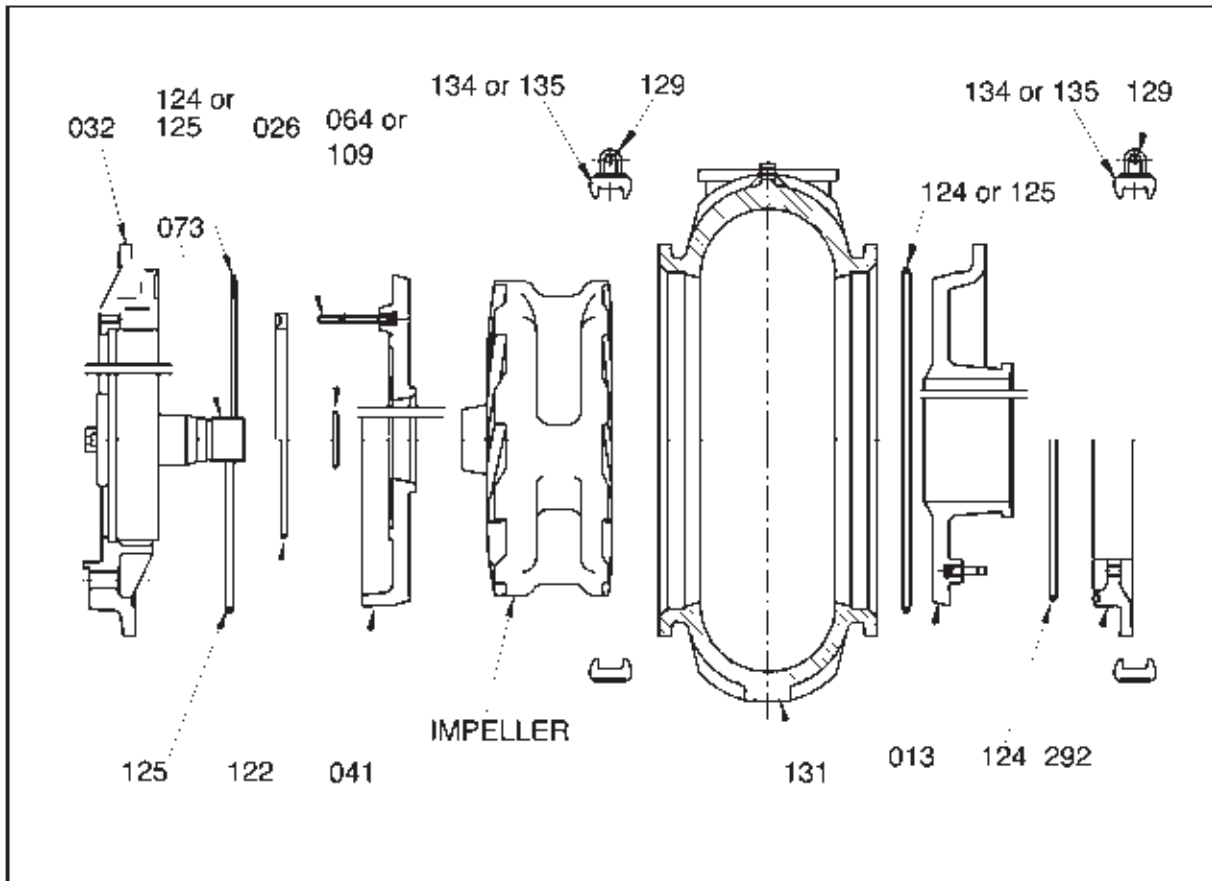

Fig. 9 Three-part casing assembly
- (i) Fit 'C'-section, or O-Ring type, **seal ring** (122) to periphery of **stuffing box**(078) or **expeller ring** (029), preferably using contact cement adhesive. Apply adhesive to compression face of seal ring in about 4 to 6 points only to avoid undue restraint of seal during compression.
- (ii) Where applicable, fit 'C'-section, pressure activated, **bowl ring** (124 or 125). Fit to groove in the adaptor plate, mounted flat face in, using contact cement adhesive if required. This seal configuration is shown above the centreline in fig 9.
- (d) Where applicable, place O-Ring type **bowl seal** (124 or 125) over periphery of back liner, and move rearwards until it is in contact with adaptor plate. This seal configuration is shown below the centreline in Fig 9.
This door configuration is shown above the centreline in fig 9.
This door and seal configuration is shown below the centreline in Fig 9.
- (a) Fit **door seal** (124 or 125) to groove in end face of **door clamp plate** (292), using contact cement adhesive if required. This seal may be alternatively a 'C'-section pressure seal, or an O-Ring seal (as shown in fig 9 below centreline), depending on the particular pump size. If of the 'C'-section pressure seal type, mount flat face in, against door clamp plate.